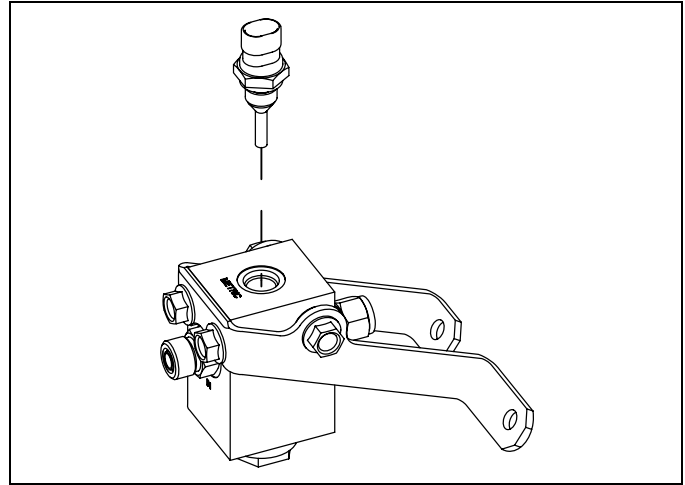

Figure 5: Installation of temperature sensor to regulator
14. Install temperature sensor with disogrin o-ring from hydraulic manifold into the port (Figure 5). Torque to **45 N·m (33 ft·lbs)**.